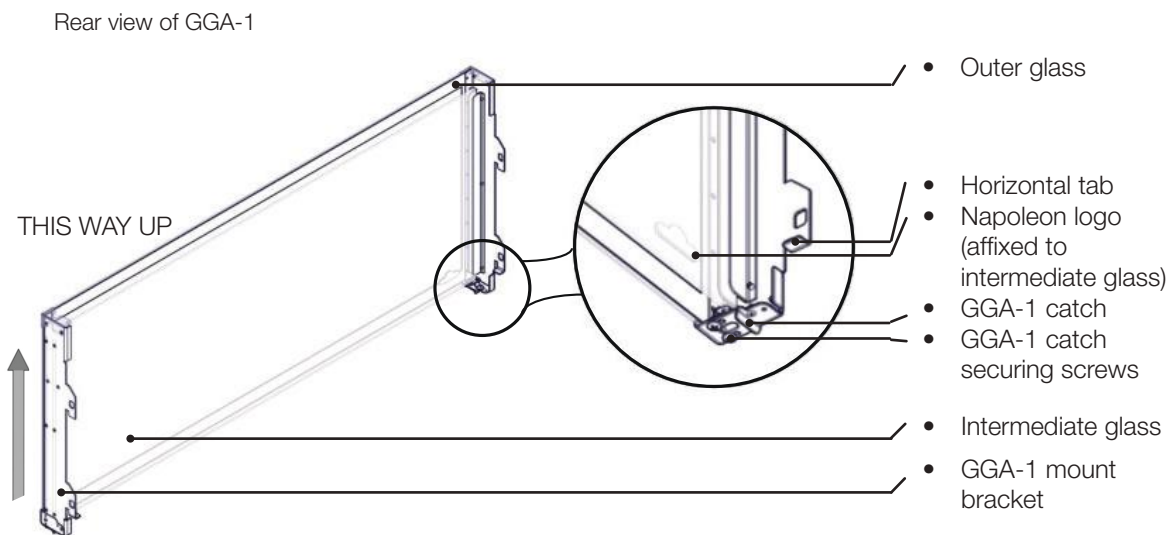

Fig. 1
2. Ensure to handle the GGA-1 as shown **(Fig. 1)** as the floating intermediate glass might fall out of the assembly if handled incorrectly.